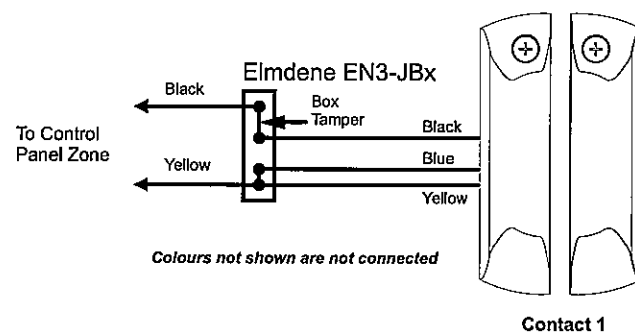

Figure 6
- Fully supervised loop - Double leaf doors - Parallel mode connection Figure 6